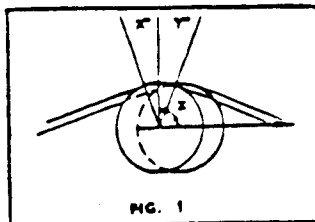

FIG. 1
1. Wrap of web on MOUNT HOPE ROLL ($X^\circ + Y^\circ$ in Fig. 1).
- a. Install roll so that it makes an arc of contact with the web with the apex of the bow as shown in Fig. 1:
- b. Assure maximum area of contact between the roll and the web by making "meeting" and "leaving" angles equal (Angles X° and Y° , Fig. 1). To do this, bisect the total arc of contact and draw a line at 90° to the bisecting line. Axle of roll should lie in this plane with apex of bow (indicated by large arrow) pointing in direction of travel.